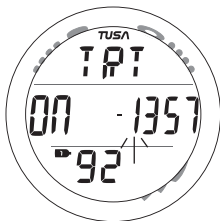

Fig. 56 - SET TRT 1
**SET TRT 1**, information includes (Fig. 56):